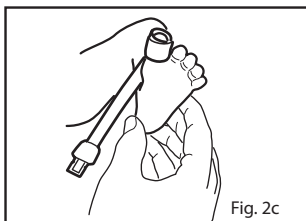

Fig. 2c
3. Refer to Fig. 2c. Ensure that the emitter window (※) aligns on the top of the toe/thumb directly opposite the detector. Verify correct positioning and reposition if necessary.